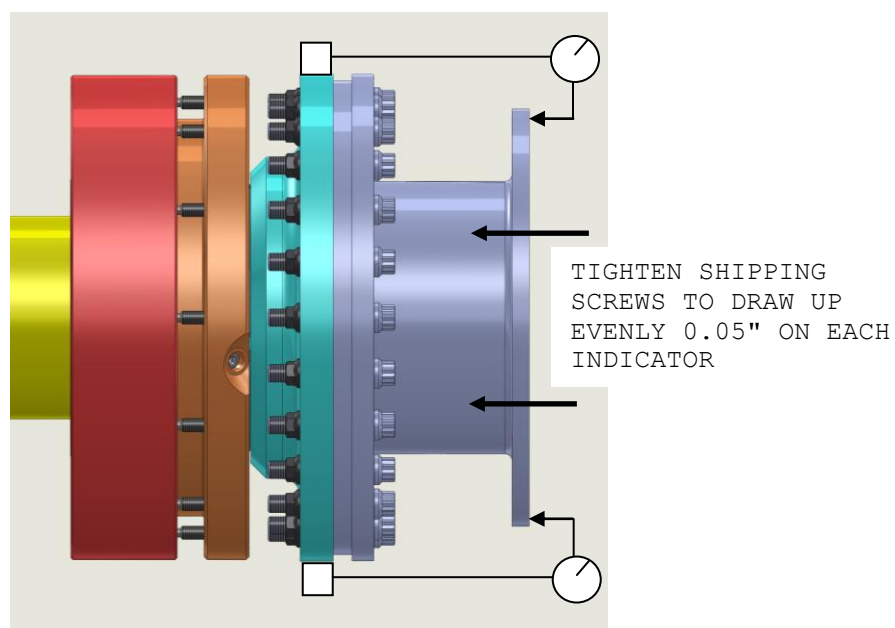

Figure 7 - "Drawing up" the Diaphragm Pack Subassembly
3.2.1 Loosen the shipping screw jam nut and the shipping screws. Use (2) dial indicators placed 180° apart to measure deflection between the outer flange of the diaphragm pack and the coupling guard as shown in Figure 7. Tighten the shipping screws to draw up (or compress) the diaphragm pack .050 inches on each of the dial indicators.